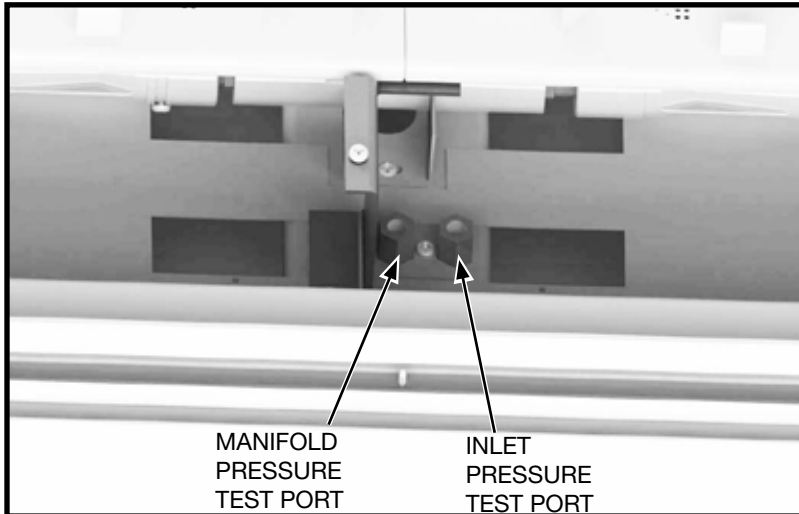

Figure 92: Pressure test ports.
2. Remove the plug from the pressure test port using a 3/16" hex key. The pressure test ports are located next to the center tray leg opposite from the pilot (Figure 92).